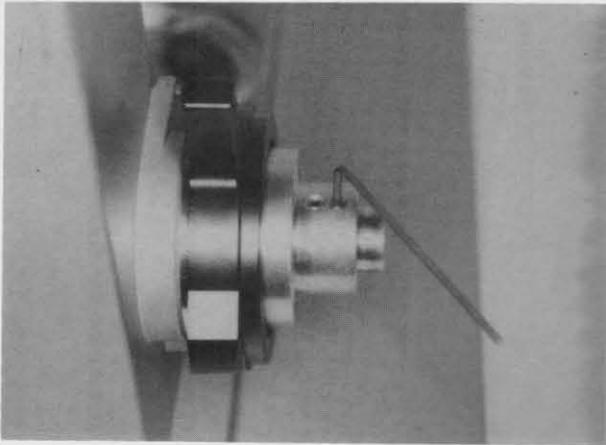

Fig. 4-24
- (3) Tighten two Setscrews ACU3x5SA on Bearing AA872200. (See Fig. 4-24)